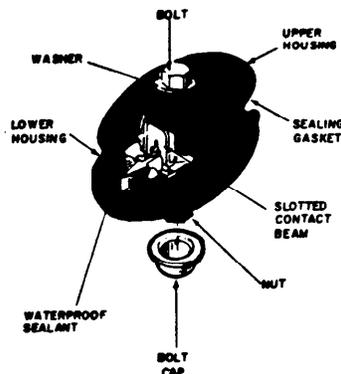

Fig. 1 - AMP* Mini Drop Wire Splice
2.01 The AMP* mini drop wire splice (Fig. 1) is designed for splicing single pair drop wire with copper clad steel conductors of 18 to 18 1/2 AWG.